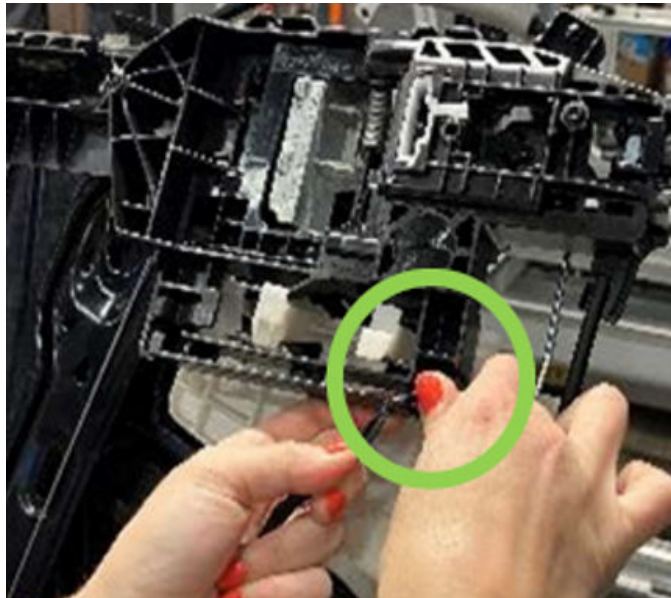

Fig. 42
46. Connect the chassis clip Fig. 42.